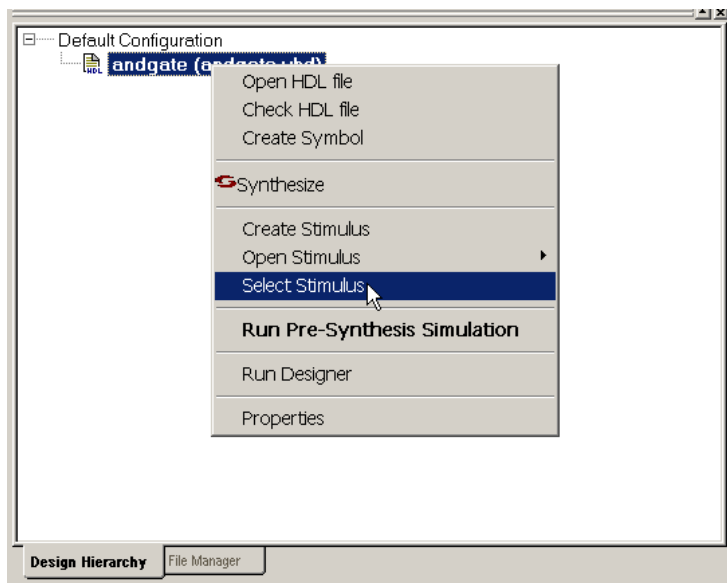

Figure 5-9. Selecting a Stimulus File
1. **Select a stimulus file. Right-click andgate in the Libero IDE Design Hierarchy tab and select “Select Stimulus”, as shown in Figure 5-9.**